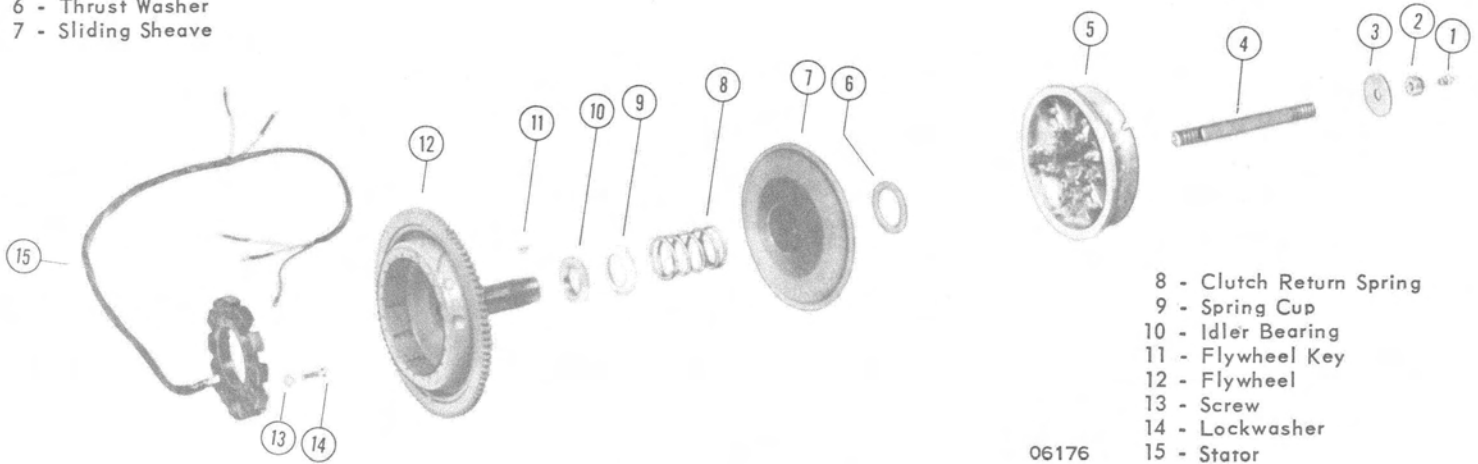

Figure 5. Clutch Bell, Flywheel and Stator
INSTALLATION (Figure 5)
4. Place idler bearing, spring retainer cup (cup toward sliding sheave), return spring and sliding sheave on flywheel shaft. (Figure 5, items 7-8-9-10)
6. Place thrust washer on sliding sheave. Install key in flywheel shaft. (Figure 5, items 6-11)